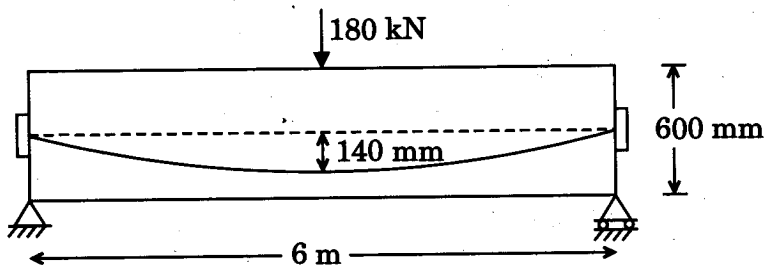

Figure 1
6. A prestressed concrete beam 400 mm wide and 600 mm deep has a span of 6 m. The beam is prestressed with a tendon bent as shown in Figure 1. A central concentrated load of 180 kN is acting on the beam. Effective prestressing force is 1200 kN. Calculate the extreme fibre stresses at mid span taking into account the self weight of beam also. 14